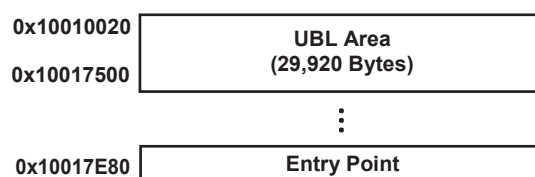

Figure 7. Memory Map
The boot complete (BC) bit is located at bit 0 of the BOOTSTAT register. The BOOTSTAT register is located at 0x01C40010. The entry point must be specified in terms of the ARM Instruction TCM area and should be in the range of 0x00000020–0x000074FF. The external Host should download the UBL between 0x10010020 and 0x10017500, as shown in Figure 7.